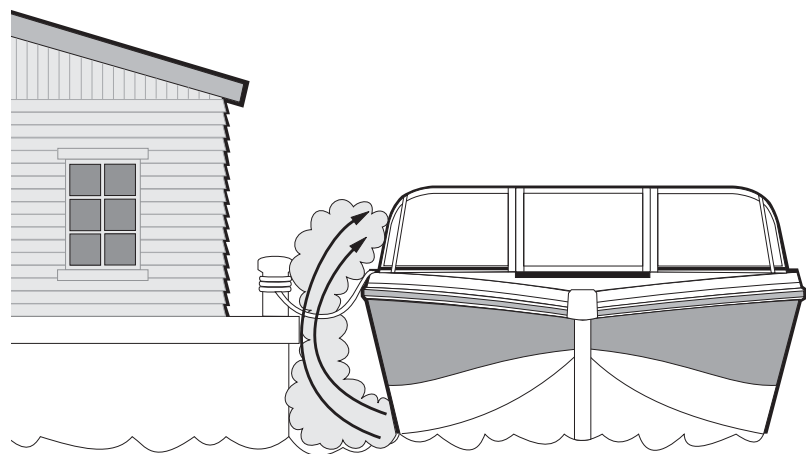

FIGURE 2-10 CONFINED AREAS
**Exhaust Fumes!** Hull exhaust outlets near a pier, dock, seawall, or outlets blocked by any other means can cause excessive accumulation of poisonous carbon monoxide gas within cockpit area (Figure 2-10).